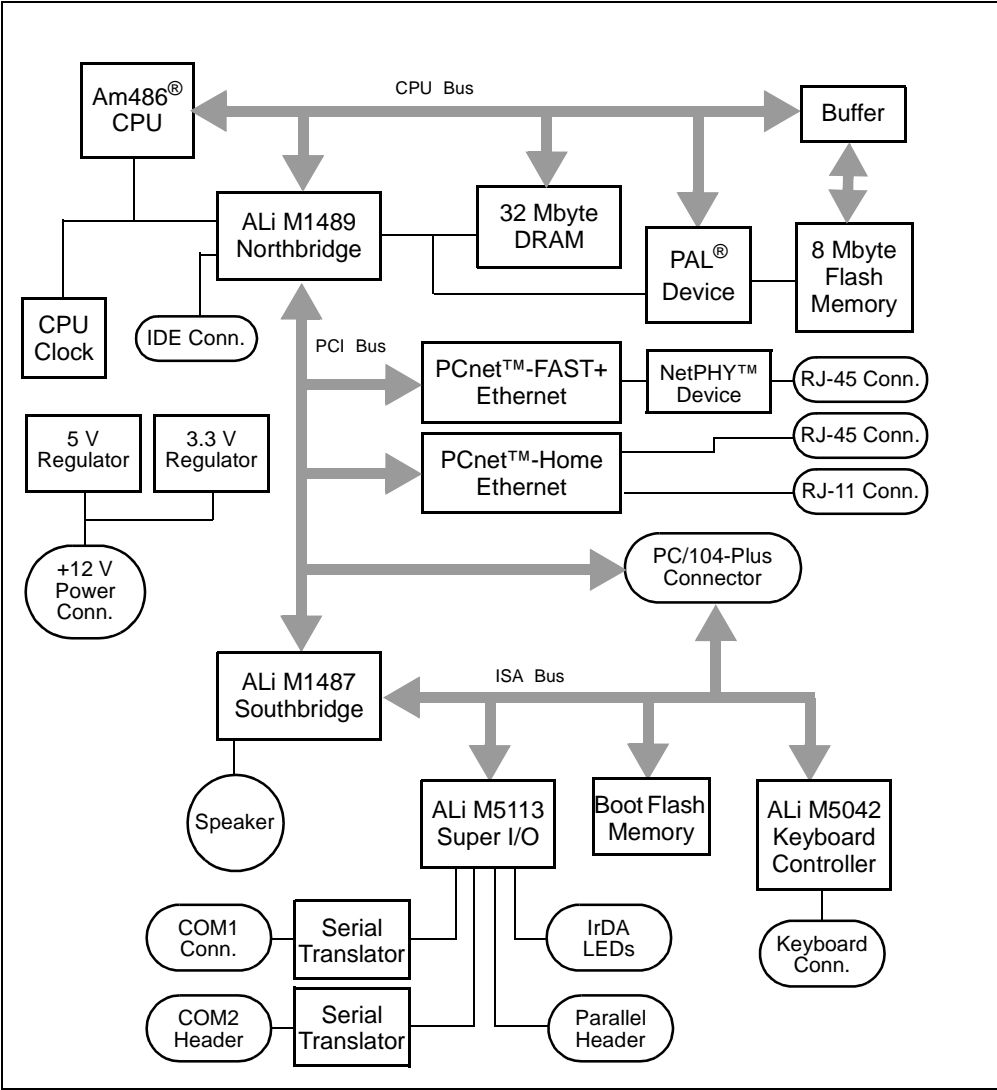

Figure 2-2. Board Block Diagram
- Figure 2-2 on page 2-4 is the block diagram for the board.